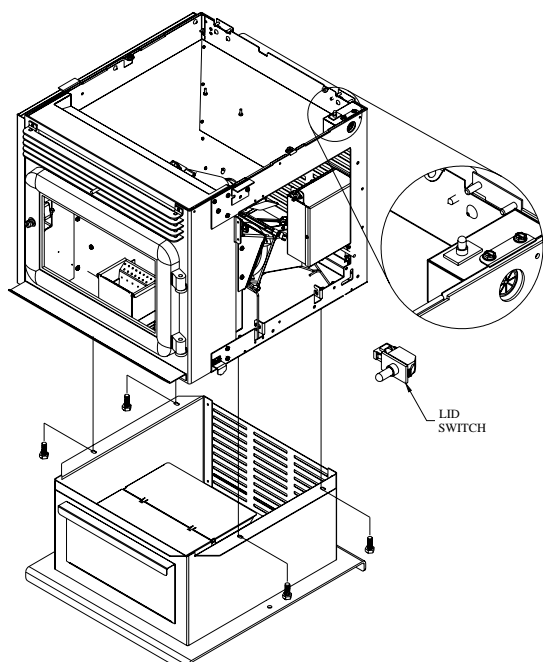

Figure 7
- 1- Secure the stove to the pedestal with the 4 screws supplied. (Figure 7)
(refer to Figure 7 & 8)